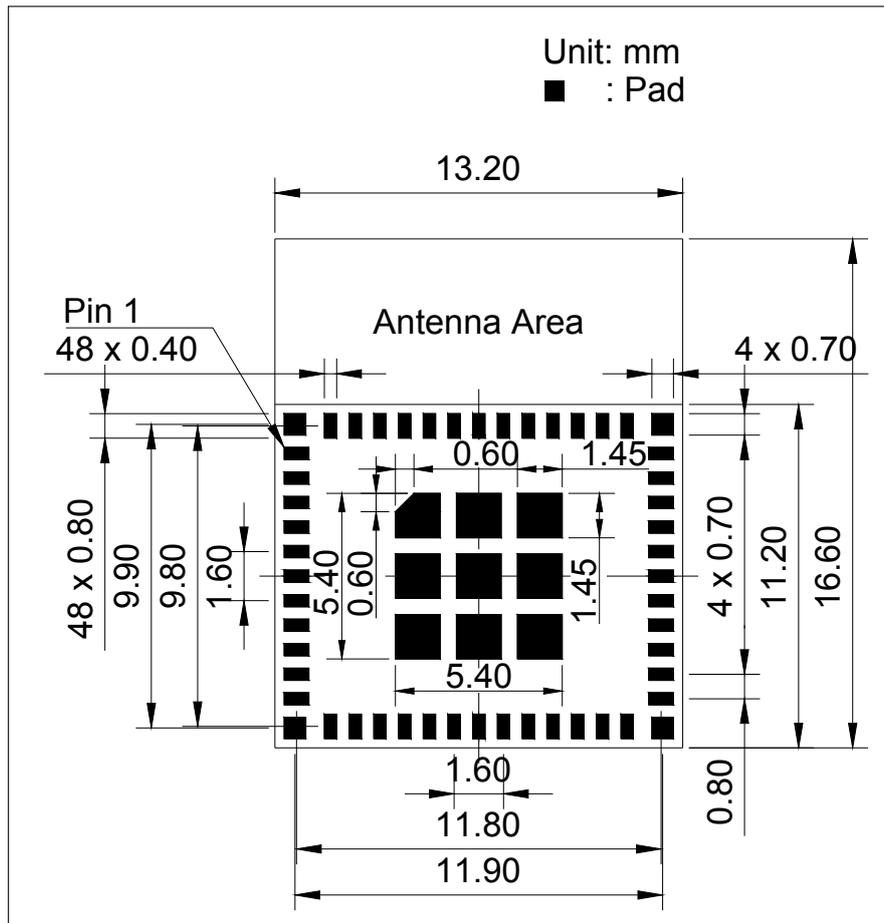

Figure 10: ESP32-C6-MINI-1 Recommended PCB Land Pattern
- Figures for recommended PCB land patterns with all the dimensions needed for PCB design. See Figure 10 *ESP32-C6-MINI-1 Recommended PCB Land Pattern* and Figure 11 *ESP32-C6-MINI-1U Recommended PCB Land Pattern*.
- Source files of recommended PCB land patterns to measure dimensions not covered in Figure 10. You can view the source files for ESP32-C6-MINI-1 with Autodesk Viewer.